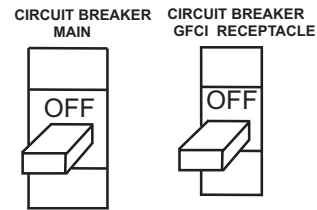

Figure 29. GFCI and Main Circuit Breaker (OFF)
1. Place both the **MAIN** and **GFCI** circuit breakers to the "OFF position" (Figure 29).